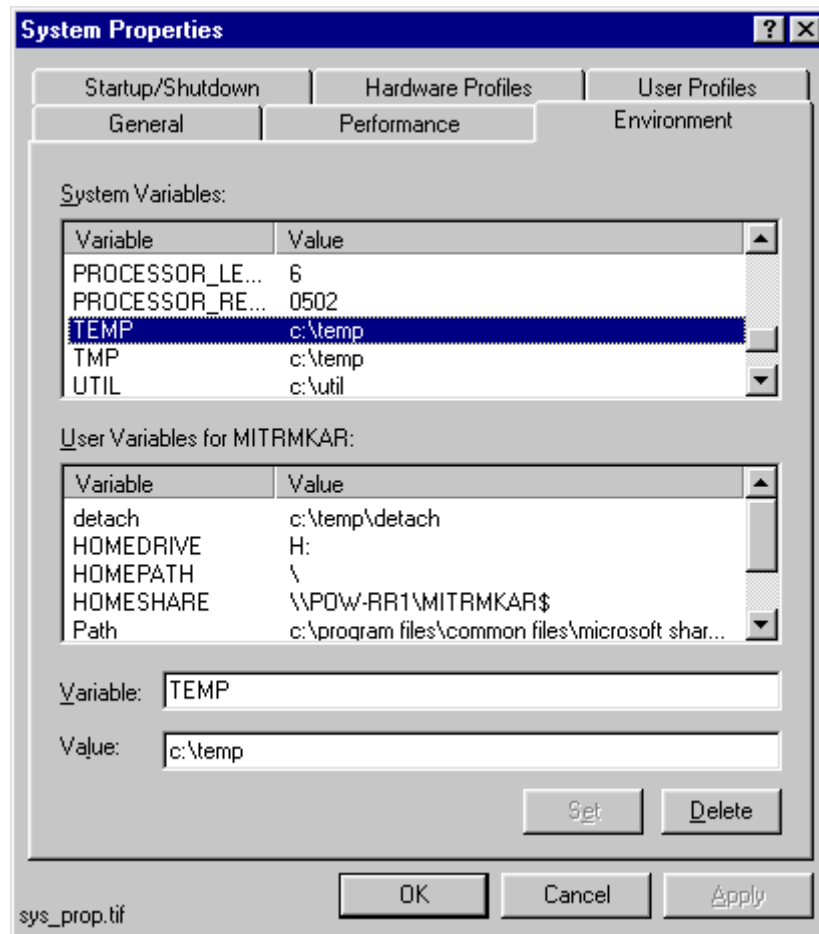

Fig. 7.11.2.-1 The TEMP environment variable setting
2. Choose the Environment page as shown in Fig. 7.11.2.-1 and locate the TEMP variable from one of the lists. The setting may be defined both as a System and a User variable. If found, the User variable setting overrides the respective System variable setting.